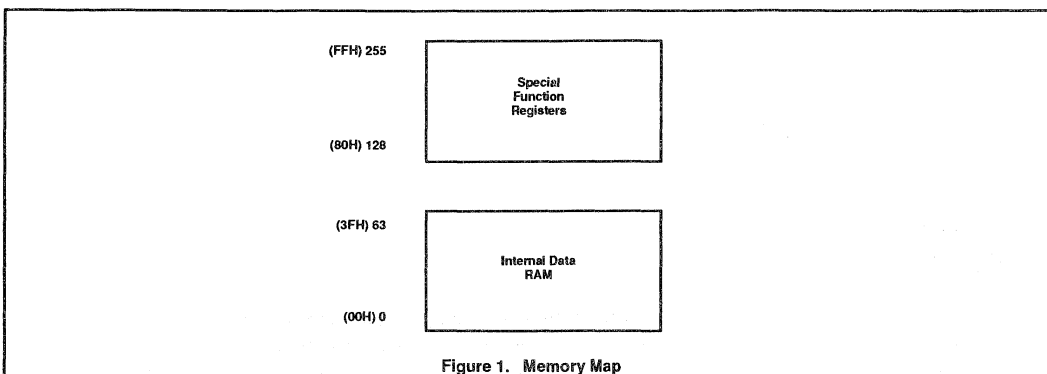

Figure 1. Memory Map
The central processing unit (CPU) manipulates operands in two address spaces as shown in Figure 1. The part's internal memory space consists of 2k bytes of program memory, and 64 bytes of data RAM overlapped with the 128-byte special function register area. The differences from the 80C51 are in RAM size (64 bytes vs. 128 bytes), in external RAM access (not available on the 83C751), in internal ROM size (2k bytes vs. 4k bytes), and in external program memory expansion (not available on the 83C751). The 128-byte special function register (SFR) space is accessed as on the 80C51 with some of the registers having been changed to reflect changes in the 83C751 peripheral functions. The stack may be located anywhere in internal RAM by loading the 8-bit stack pointer (SP). It should be noted that stack depth is limited to 64 bytes, the amount of available RAM. A reset loads the stack pointer with 07 (which is pre-incremented on a PUSH instruction).